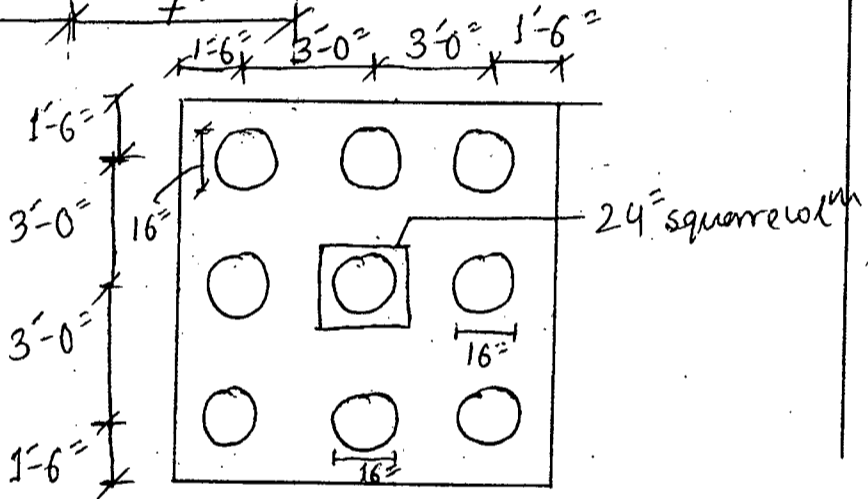

Fig. 4
(b) A pile cap is to be designed to distribute a concentric force from a single column to a nine-pile group, with geometry as shown in Fig. 4. The column transfers 300^k of dead load and 600^k of live load to the pile cap. The 24" square column is reinforced with 16 # 9 bars. The permissible load per pile is 100 kips. Find the required effective depth and total depth of the pile cap and the reinforcement. (20)